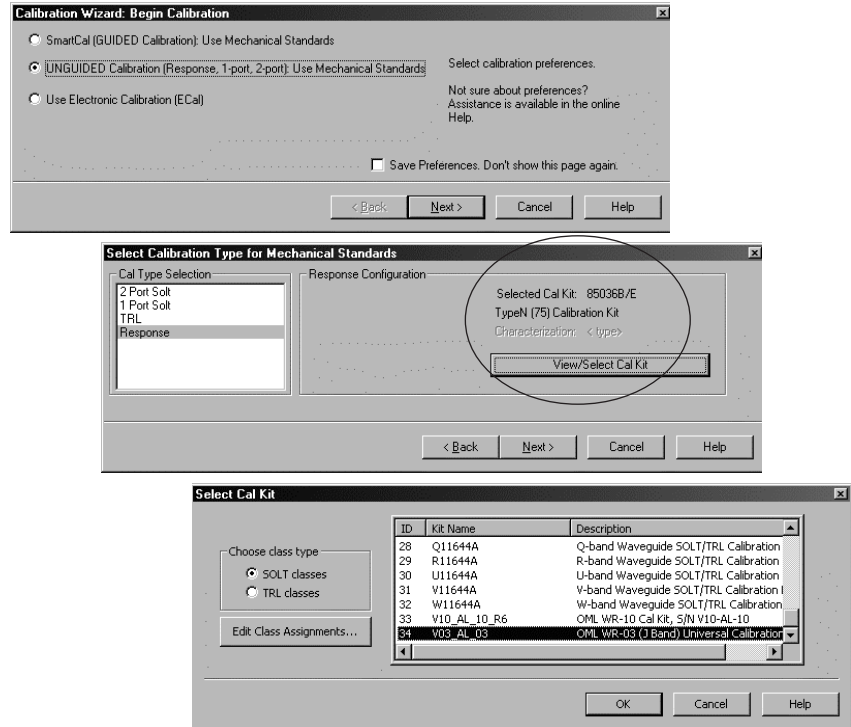

Figure 42. Select Unguided calibration, and calibration kit of choice.
2. Select **UNGUIDED Calibration**, then click **Next>** (Figure 42, top)
3. For Unguided calibration, the user must select the calibration kit because the default (or the kit last used) is often not what you want. Click on **View/Select Cal Kit** (Figure 42, middle) and then use the scroll bar to select the calibration kit of choice (Figure 42, bottom). Click **OK**.